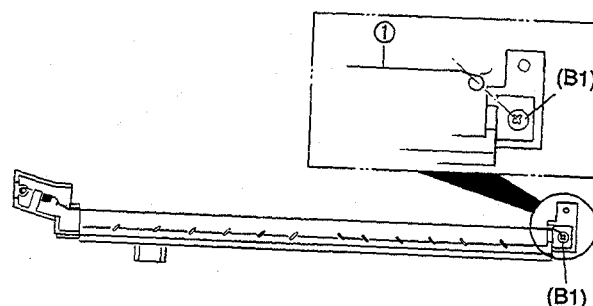

Fig. 8-16
- Temporarily tighten screw (B1) and wind corona wire ① one turn as shown in Fig. 8-16.